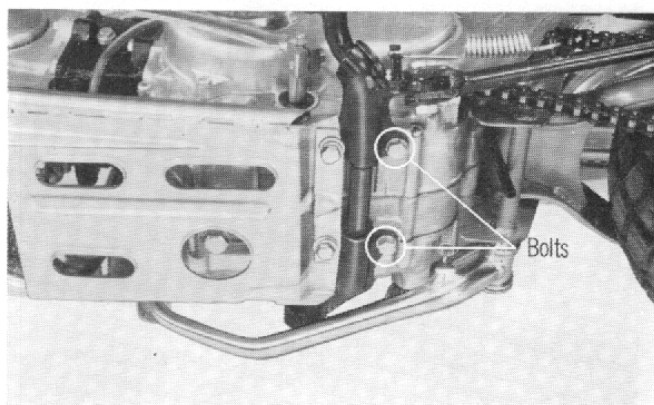

Fig. 93
- (7) Remove the step bar from the crankcase by removing the 8 mm hex. bolts. (Fig 93).